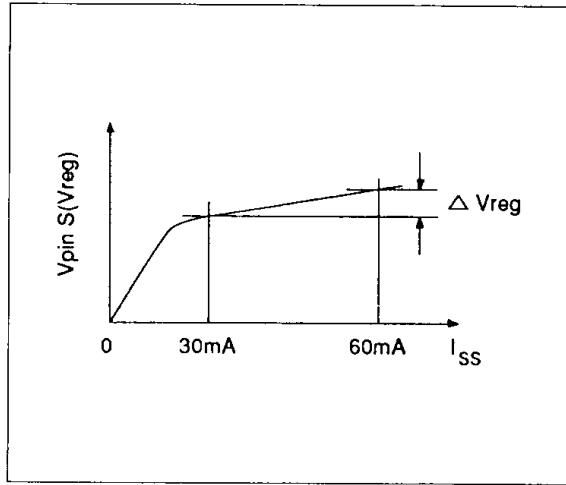

Figure 1.
- Notes: 1. See Figure 1. And  $R_d$  can be calculated as: